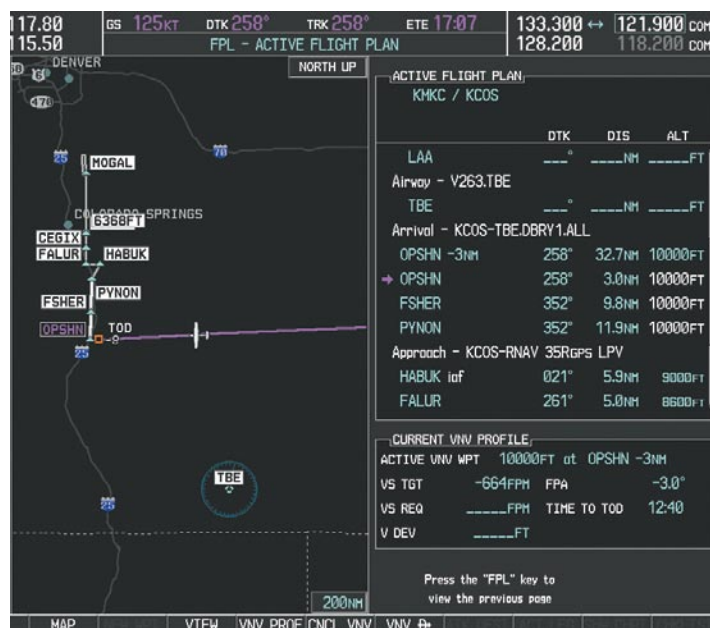

Figure 5-127 Adjusting the Descent
- a) Press the **VNV PROF** Softkey to place the cursor in the target vertical speed field (VS TGT) as shown in Figure 5-127.